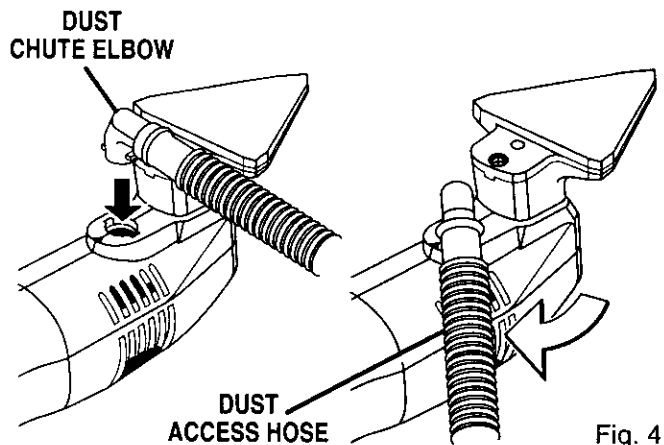

Fig. 4
- Align flexible tabs on Dust Chute Elbow with tab slots on sander. Push in flexible tab and push elbow into sander until it turns into place. See Figure 4.